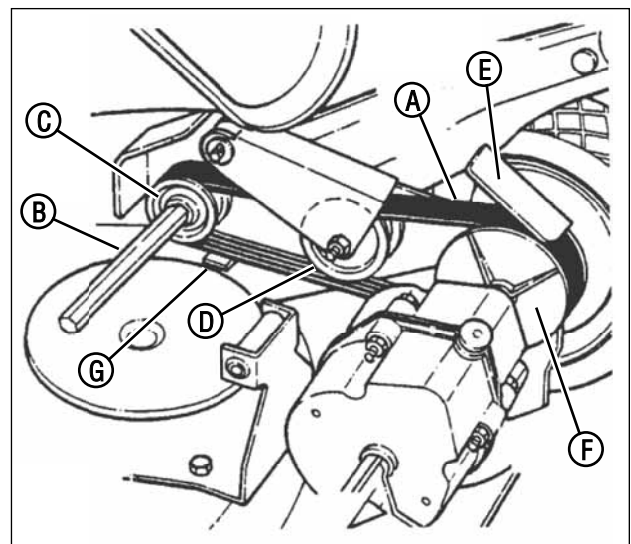

Figure 35: Poly-v belt routing
3. Place the new Poly-V Belt (A, Figure 35) over the end of the hex shaft (B) and onto the drive pulley (C).
4. Work the belt onto the top of the idler pulley (D).
5. Twist the belt sideways and pull it upward between the differential bracket (E) and driven pulley (F) and then down into the pulley groove. Make sure the Poly-V Belt is above the belt guide (G).